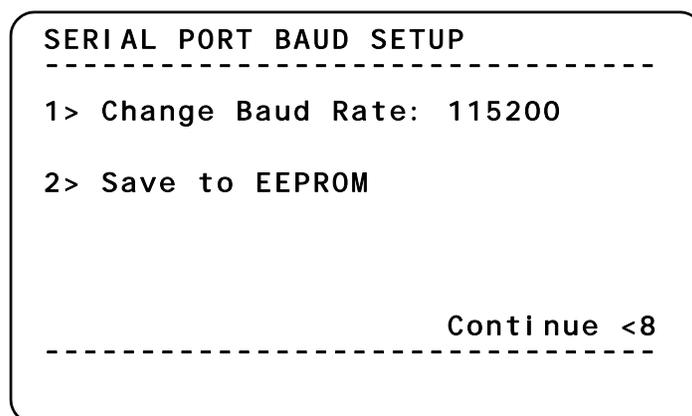

Figure 1 Master Controller baud rate setup screen
2. Hold down the lower left function key on the master controller. Turn on power. This opens the SERIAL PORT BAUD SETUP screen (Figure 1),